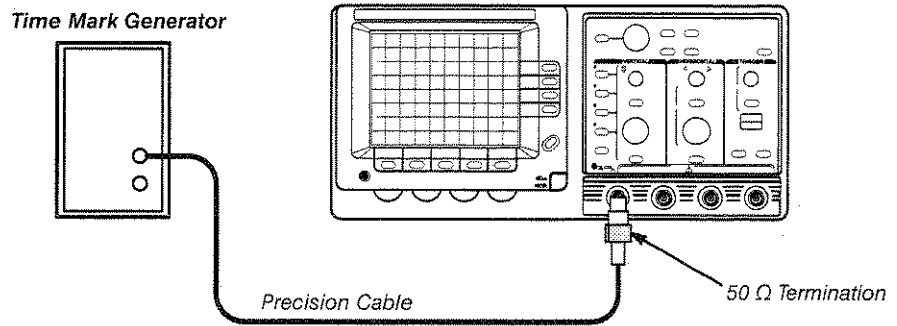

Figure 6-10: Timing Test Setup
2. Connect the output of the time marker generator to the CH 1 input as shown in Figure 6-10.